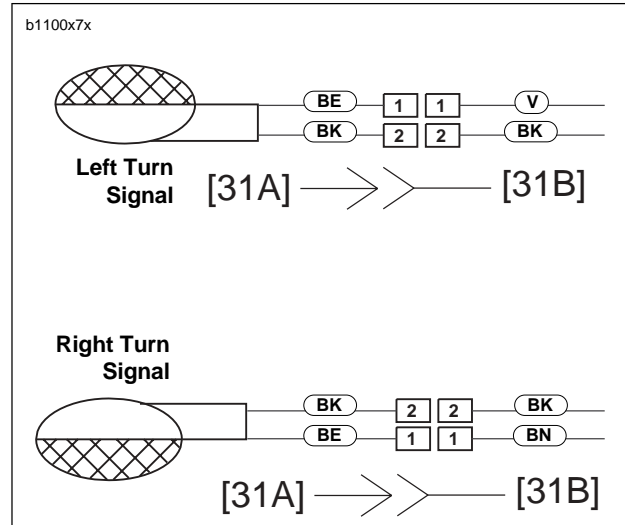

Figure 7-46. Front Turn Signal Connections
1. See Figure 7-46. Disconnect bullet connectors on turn signal wires.
2. Install turn signal (1) using lockwasher (2) and fastener (3). Tighten fastener to 25-28 **in-lbs** (2.8-3.2 Nm).
3. Attach bullet connectors on turn signal wires as shown in Figure 7-46.